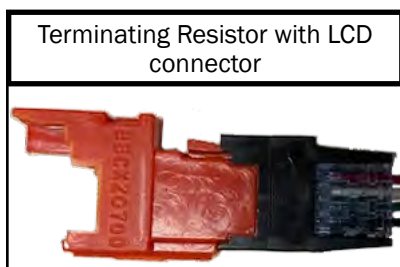

Figure 79
5. Connect the Terminating Resistor to the end of the RV-C cable. See Figures 79 and 80.